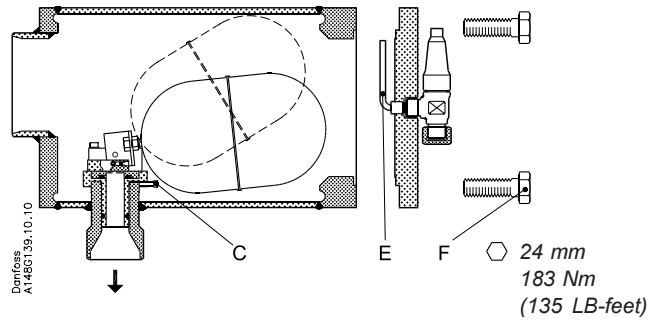

fig. 5
- 3) Remove float valve assembly by untightening the screw pos. C (fig. 5) and lifting up the complete float valve assembly.
- 4) Place new float assembly in the outlet branch and tighten the screw pos. C (fig. 5)
NB! Ventilating pipe pos. E (fig. 5) has to be placed vertically upwards.
6) Use a torque wrench to tighten the screws pos. F (fig. 5). Tighten with torque of 183 Nm (135 LB-feet).